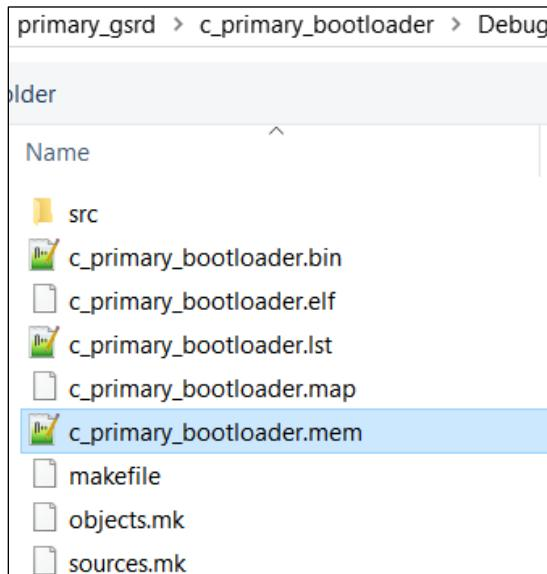

Figure 8.42. Initialize System Memory with **c_primary_bootloader.mem**
6. Click on **Initialization File's Value** area with three dots to locate the generated **c_primary_bootloader.mem** Bootloader file as shown in Figure 8.42.